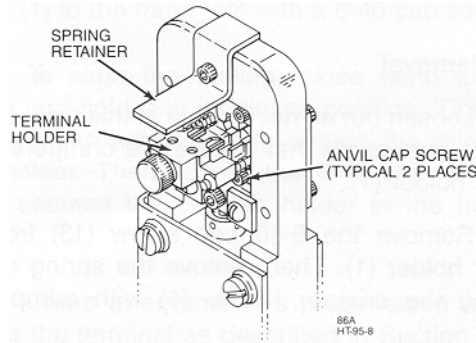

Figure 6
1. Using a 3/32-inch Allen wrench loosen the attaching cap screw(s) for the defective anvil(s). See Figure 6.
A pinch point exists between the hand tool's spring retainer and terminal holder (see Figure 6). To prevent injury, always keep your fingers clear of this area when operating the hand tool.